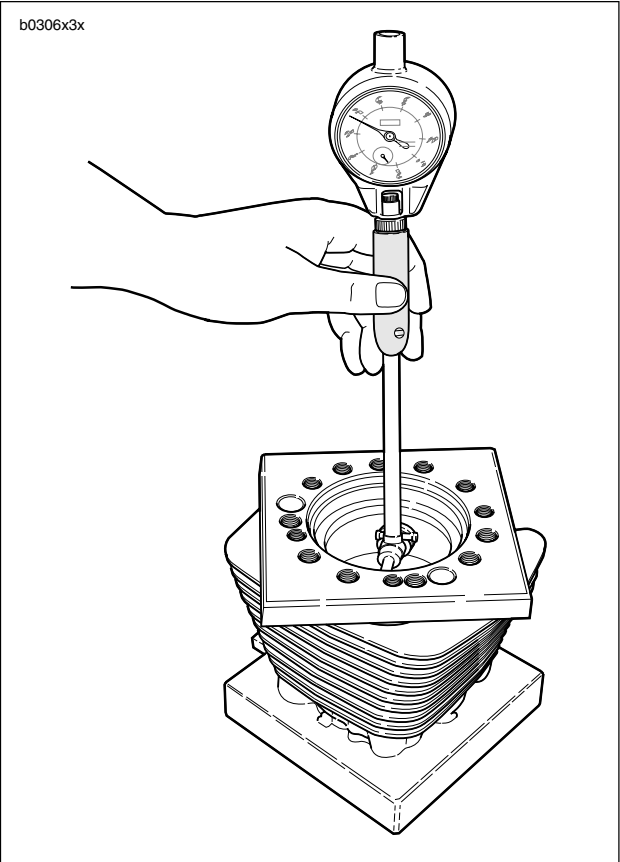

Figure 3-96. Measuring Cylinder Bore Using Torque Plates (Part No. HD-33446B)
- 2. See Figure 3-96. Install a head gasket, base gasket and O-rings, and CYLINDER TORQUEPLATES (Part No. HD-33446B) and XL EVOLUTION TORQUE PLATE BOLTS (Part No. HD-33446-86). Tighten the bolts using the same method used when installing the cylinder head screws. See 3.6 CYLINDER HEAD.
- 3. See Figure 3-96. Take cylinder bore measurement in ring path, starting about 0.50 in. (12.7 mm) from top of cylinder, measuring from front to rear and then side to side. Record readings.